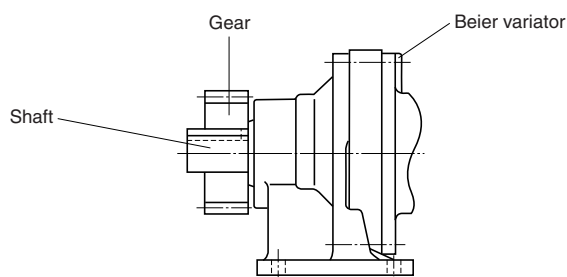

Fig. 6
- Install sprocket and gears so that their point of load application will be closer to the variator side with respect to the length of the shaft. (Fig.6)